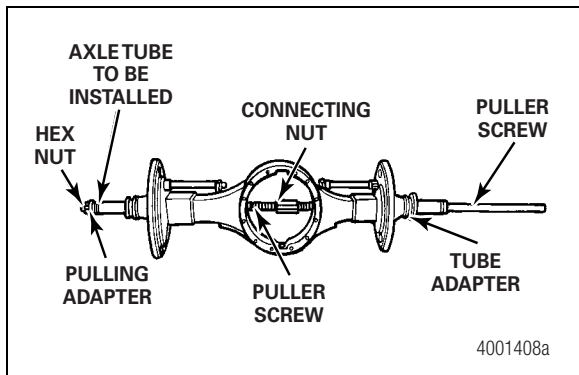

Figure 5.13
1. Install the two puller screws into the axle housing. Connect the puller screws with the connecting nut. Figure 5.13.
2. Install the pulling adapter into each end of the axle tube. Figure 5.13.
3. Install the axle tube and the adapters into the housing. Install the hex nut. Figure 5.13.
4. Position the tube adapter at the opposite end of the axle housing. Figure 5.13.